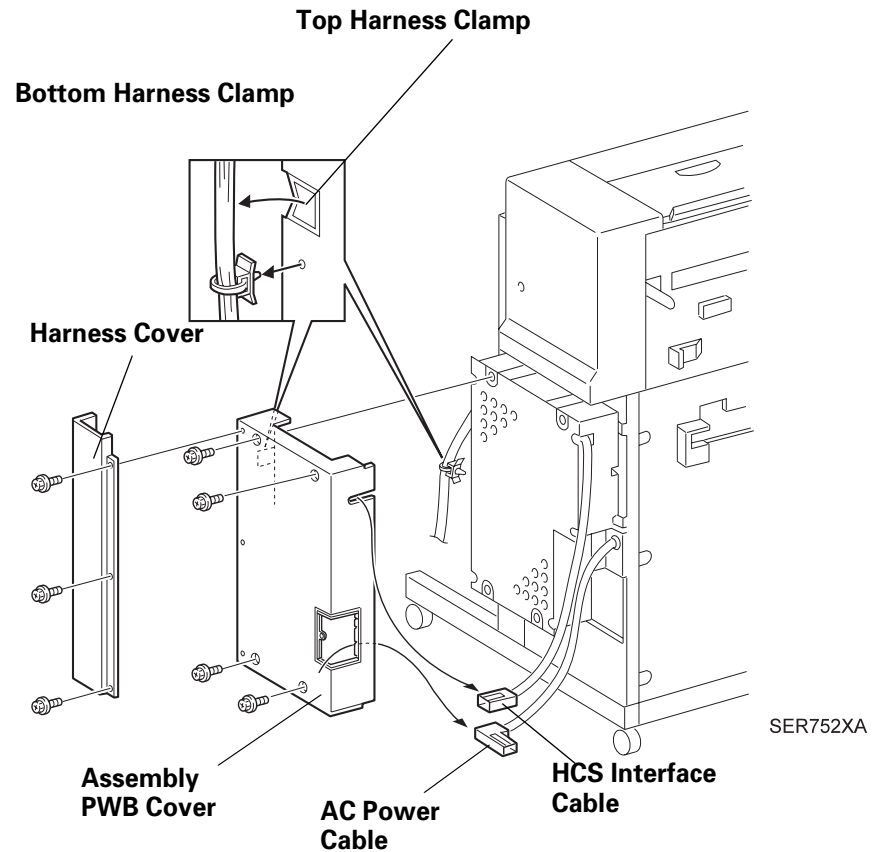

Figure 3-15. Finisher Stapler PWB Cover
4. Remove the wire harness from the Top Harness Clamp. (see Figure 3-15)
1. Install Finisher Stapler PWB to HCS frame. (see Figure 3-15)